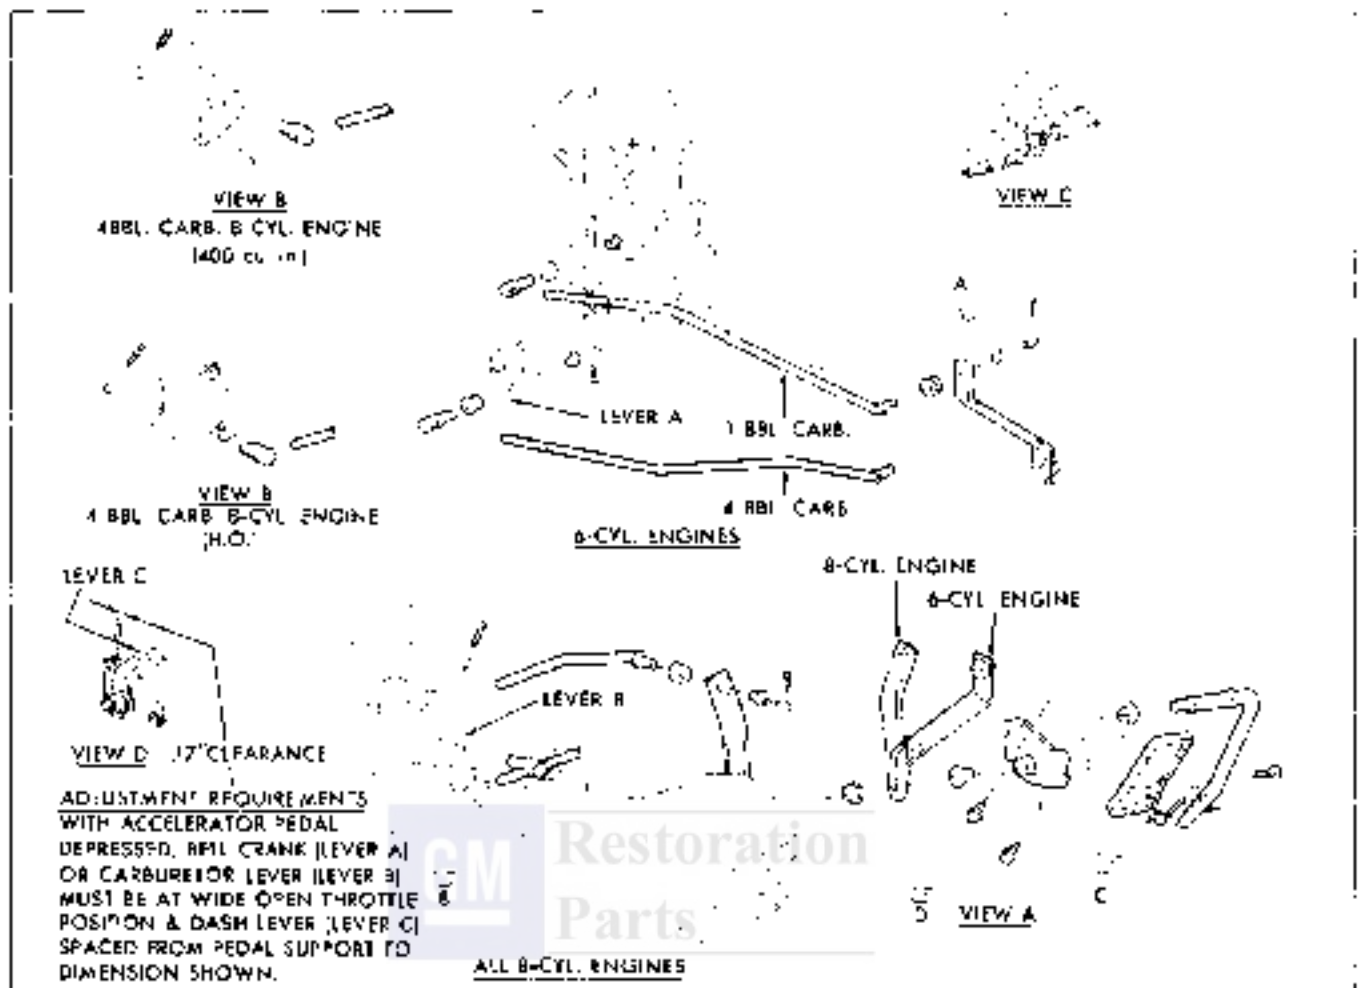

Fig. 6B-6 Accelerator Linkage—Firebird
2. Remove four air horn attaching screws. Lift air horn straight up from bowl so as not to damage float (Fig. 6B-7). Place air horn, inverted, on flat surface.
3. Remove float hinge pin and lift float from air horn (Fig. 6B-8). Float needle may now be removed.